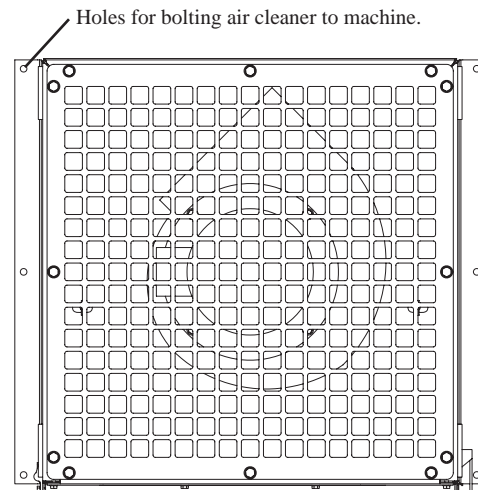

Figure 2
1. Bolt the air cleaner to the machine in it's final location using the provided holes in the flanges of the air cleaner (Fig 2).